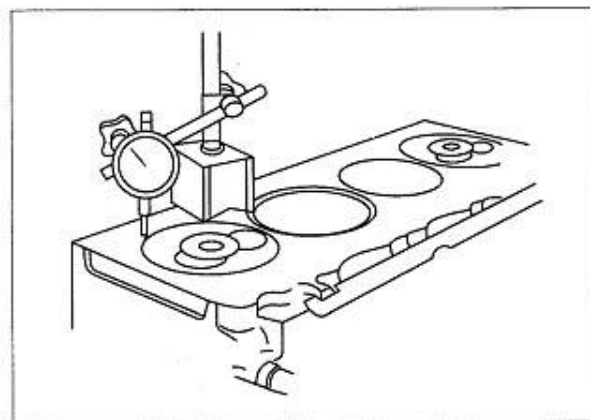

Figure 3-6 Measurement of Protrusion Height of Piston Top
(1) Clean off carbon deposition on the top of piston and gasket on the top surface of cylinder block carefully.
(2) Measure of protrusion height of piston on 1, 3 spots of piston top surface and 2, 4 spots of cylinder block top surface with indicator (see Figure 3-6, 3-7). Each cylinder must be measured.
(3) Record highest value, and use this value to select the thickness of cylinder head gasket.